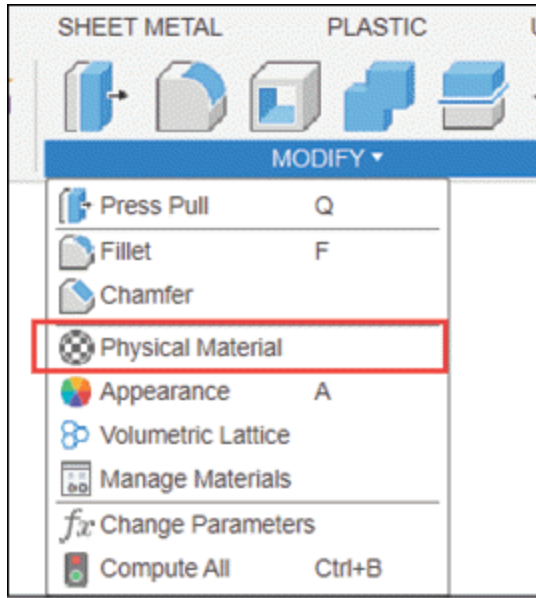
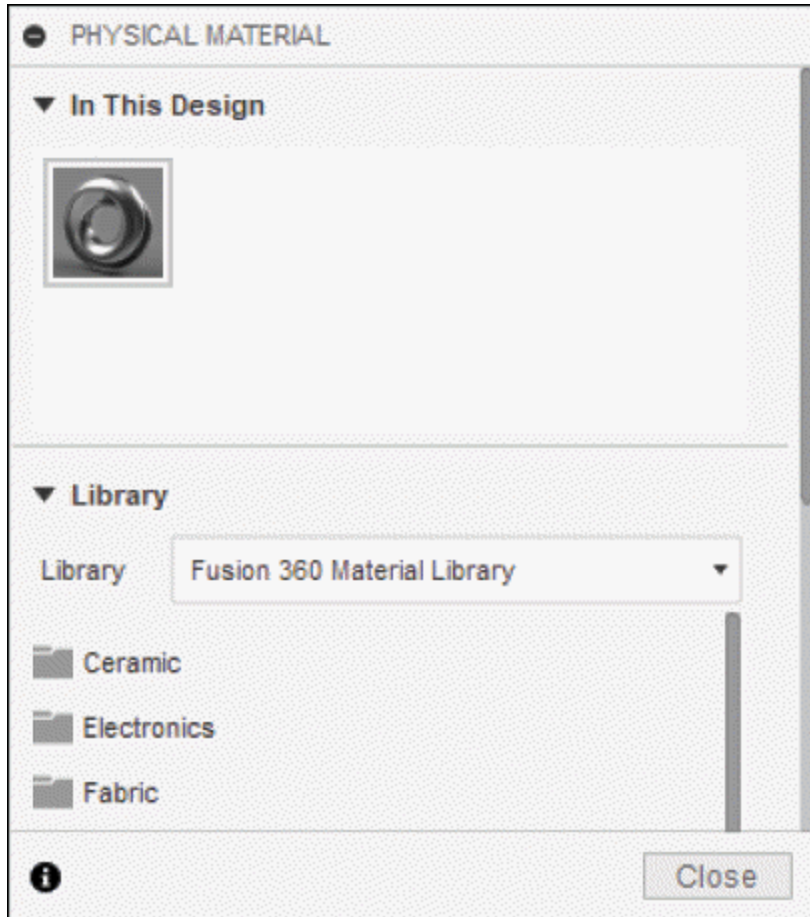

Figure-68. Physical Material tool
Figure-69. PHYSICAL MATERIAL dialog box
- Click on the **Physical Material** tool of **MODIFY** drop-down from **Toolbar**; refer to Figure-68. The **PHYSICAL MATERIAL** dialog box will be displayed; refer to Figure-69.